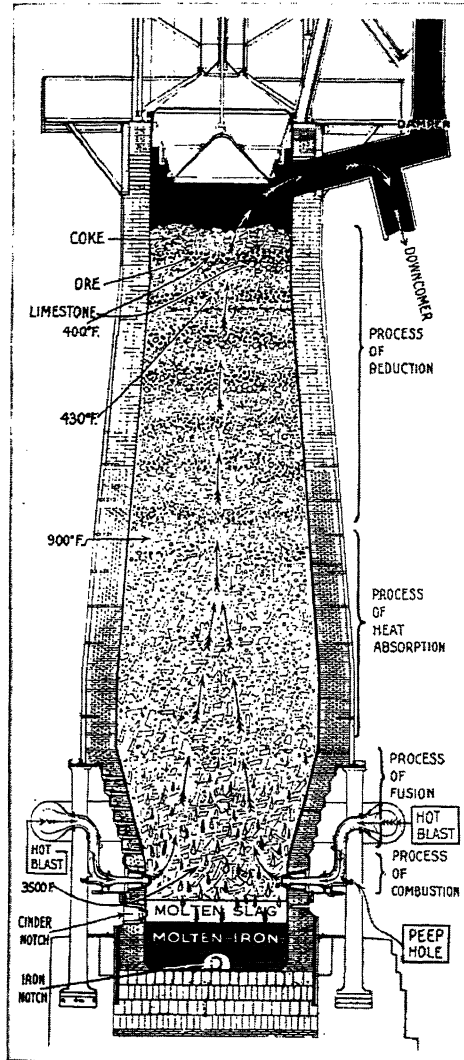

Fig. 261. Section of a blast furnace showing charge and operation
**Blast Furnaces.** Iron ore is smelted in a blast furnace (see Fig. 261). A blast furnace is a large cylinderlike stove that reduces iron ore to pig iron. A standard blast furnace is 90 feet high and about 25 feet in diameter. This big furnace will produce from 500 to 700 tons of iron every day.